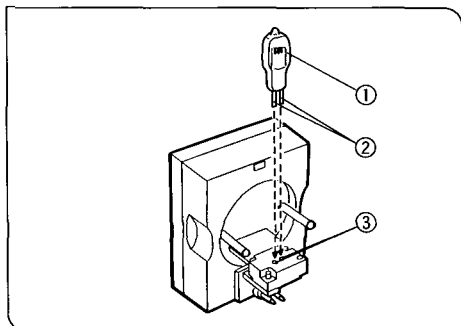

Fig. 8
1. Holding the bulb ① with a piece of gauze to avoid touching it directly with bare hands, insert the bulb pins ② fully into the pin holes ③ of the lamp socket. (Fig. 8)